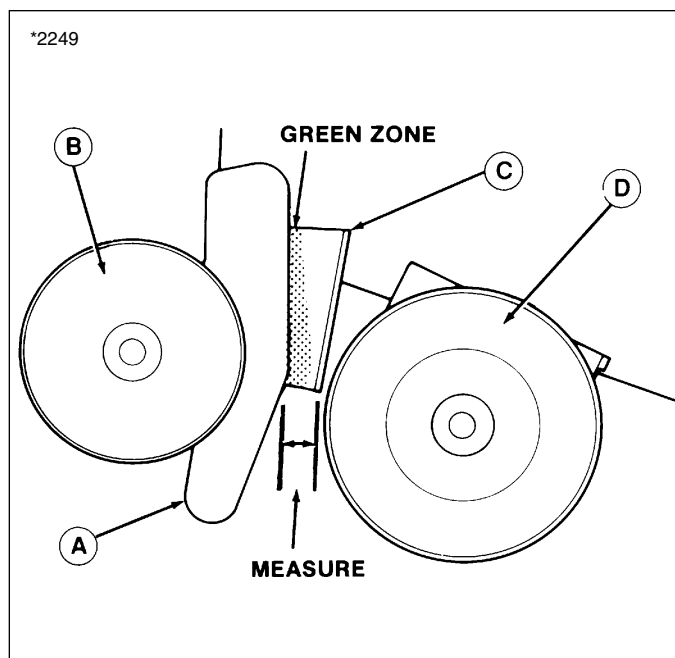

Figure 5. Mower Belt Adjustment
5. Slide the mower under the tractor, then turn the front wheels to face straight ahead. Use the lift cable pin and spring clip to attach the tractor lift cable clevis (F,) to the mower lift anchor (E). Use the lower hole on top lift cable clevis (not shown) for a higher transport position.
7. Lift the front of the mower and attach the mower hitch arms (I) to the tractor hitch (J) using two pins and safety clips. Install the pins from the outside. It is easier to install the left-hand pin first.
9. Push the belt tensioning lever (C) fully down and forward.
11. Install the mower drive belt on the mower pulley and tractor pulleys. The belt must be seated in the inner groove of the drive pulley (B). Make sure that flat side of the belt contacts the front idler pulley (L).
12. Pull the belt tensioning lever (C) fully back and up to put tension on the mower drive belt.
13. When installing belt, the rear edge of the idler bracket (A, figure 5) should be aligned with the front edge of the green zone shown in figure 5. The distance between idler bracket (A) and stop (C) will be approximately 1-3/16" (30 mm).
14. Push the belt tensioning lever down to release belt tension. Loosen the nut that secures the rear idler pulley (D, figure 5) in the slot. To move the idler bracket (A) forward, move rear idler pulley (D) rearward. Tighten the nut to secure pulley. Pull the belt tensioning lever up and check position of idler bracket (A). Readjust as necessary.
15. Operate the tractor with mower engaged for 15 - 30 minutes with a new belt; about two minutes with a used belt. Disengage the PTO, stop the engine, remove the key, shift into neutral and set the parking brake. Check position of the idler bracket (A, figure 5). If the rear edge of the bracket is not aligned with front edge of green zone, repeat step 14.